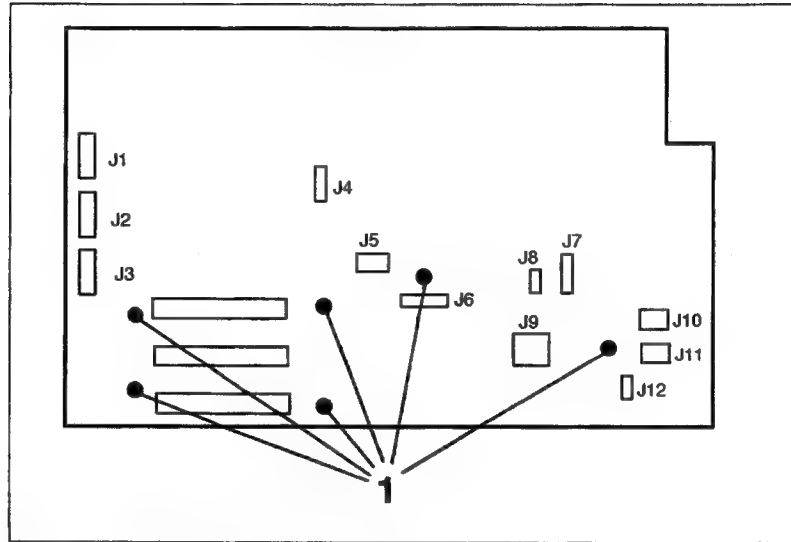

Figure 6-3. Analog/Backplane PCA
- b. Unplug the following connectors from the Analog/Backplane PCA (see Figure 6-3):
- d. Using needle-nose pliers, pull-up to release the six (6) plastic fasteners on the Backplane PCA (see Figure 6-3, item 1).
- e. Disconnect connectors J8 (Ribbon Motor) and J9 (Stepper Motor) from the Analog/Backplane PCA (refer to Figure 6-3).